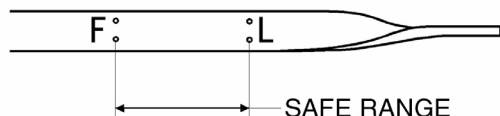

FIGURE 17: ENGINE OIL LEVEL DIPSTICK
Check the oil level daily with the engine stopped. If the engine has just been stopped and is warm, wait at least 10 minutes to allow the oil to drain back to the oil pan before checking. Wipe the dipstick clean then check oil level. The level should always be within the safe range on the dipstick (Fig. 17). Add the proper grade of oil to maintain the correct level on the dipstick. All diesel engines are designed to consume some oil, so a periodic addition of oil is normal.
8. Remove the engine-oil filler cap and pour oil in the engine until it reaches the "FULL" mark on the dipstick (Fig. 17).